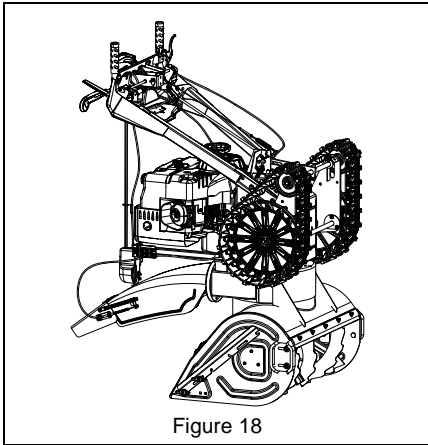

Figure 18
See Figure 18.
1. Place unit in service position (see Figure 18).